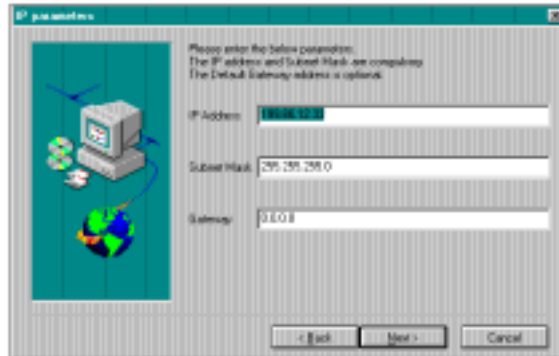

Figure 8-1. IP Parameters
7. Specify the system's IP address and its subnet mask. The gateway selection is optional (Figure 8-1).